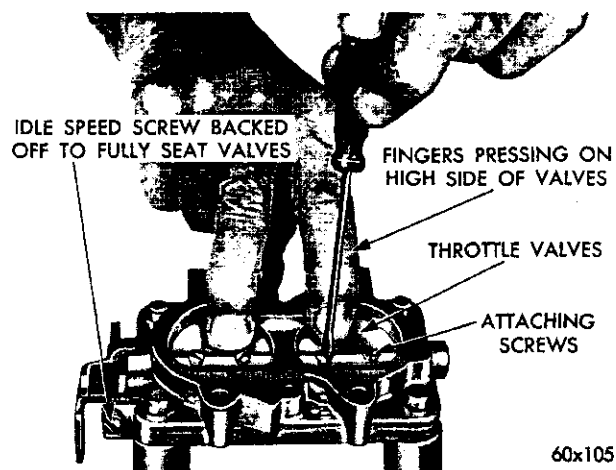

Fig. 11—Installing the Throttle Valves
(4) Slide the throttle shaft and lever out of the body.
(5) Install new throttle shaft and lever.
(6) Install throttle valves in their respective bores (with the valve numbers toward the manifold flange). Install new screws but do not tighten. Hold the valves in place, with the fingers pressing on the high sides of the valves, as shown in Figure 11. Tap the valves lightly with a screwdriver to seat in the throttle bores. Tighten the screws securely and stake by squeezing with pliers.
(7) Install the idle mixture screws and springs in the throttle body. (The tapered portion must be straight and smooth. If the tapered portion is grooved or ridged, new idle mixture screws should be installed to insure having correct idle mixture control.) **DO NOT USE A SCREWDRIVER.** Turn the screws lightly against their seats with the fingers. Back off one full turn for approximate adjustment.